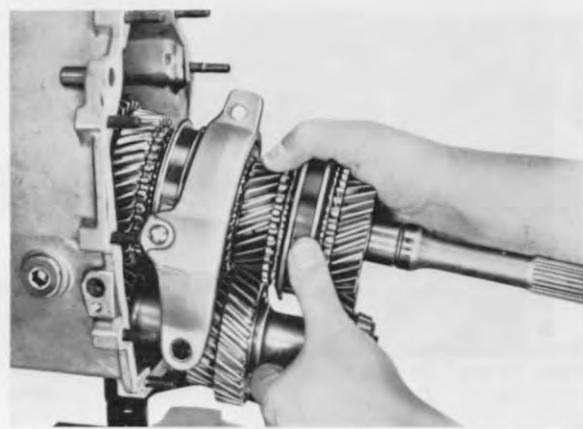

Fig. 16
- Take gearbox shaft from the housing (Fig. 16). Pull the 2 detent plungers and the 2 compression springs (616) from the bore.